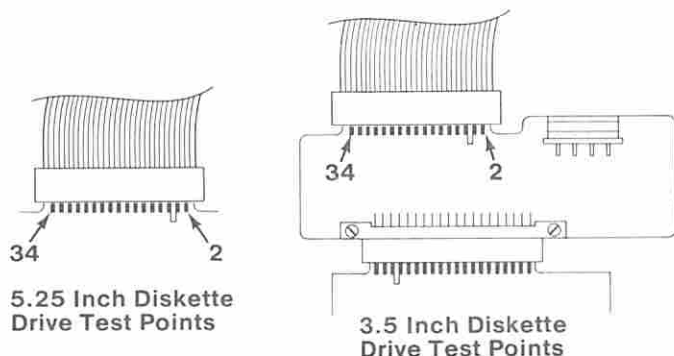

Figure 3. Voltage Check
- Power on the system and check the voltage at pin 30 on the diskette drive circuit board (Figure 3).